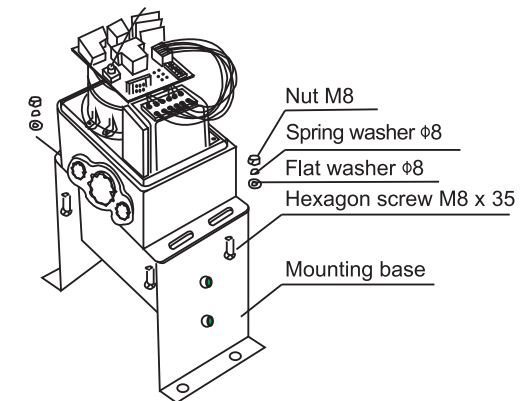

Figure 6
- Assemble the machine engine to the mounting base as shown in Figure 6;